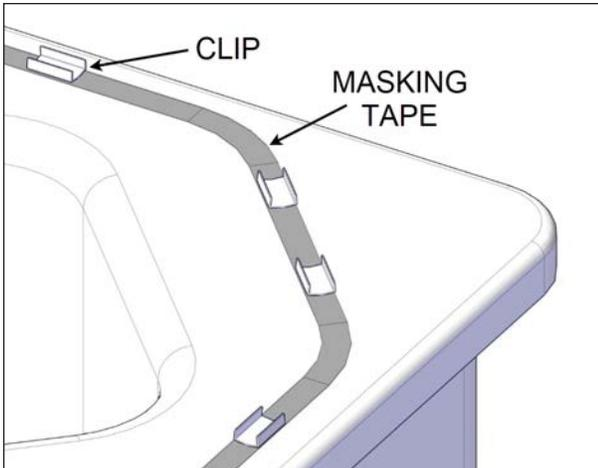
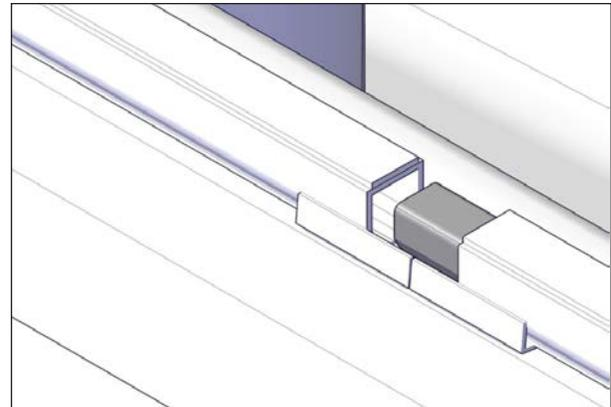
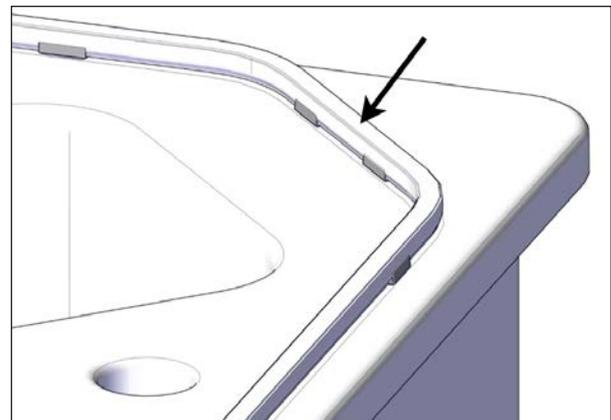

FIGURE 54: MASKING TAPE AND CLIPS
FIGURE 55: SEAL JOINT CONNECTOR
FIGURE 56: SEAL INSTALLATION
4. Apply the masking tape on the perimeter of the spa where the seal will be installed. The ideal location for the seal is closer to the swim spa interior edge on a flat surface, see Figure 54.
5. The number of seal clips is limited. Temporarily install the clips all around the spa to ensure the best distribution (do not stick yet). The minimum turn radius for the seal is 4" (10 cm), see Figure 54. Keep two clips for the seal joint connector as shown in Figure 55. Once the distribution is done, stick the clips in place (on the tape if applied).
6. The seal joint starts on the opposite side from the spa entrance. Install two clips where the seal joint connector will be located, see Figure 55.
7. Start installing the seal joint with the adhesive layer facing up towards the cover, see Figure 55 and Figure 56.
9. Insert the supplied seal connector in both ends of the seal. The use of masking tape to hold the two ends is recommended, see Figure 55.